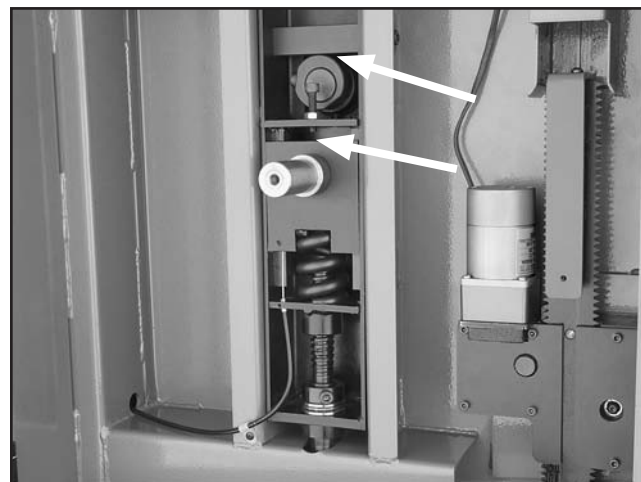

Figure 68. Tension adjustment assembly locations (top wheel removed for clarity).
4. Apply a thin coat of multi-purpose GL2 grease to the tension adjustment assembly and tension lever cam (see **Figure 68**).